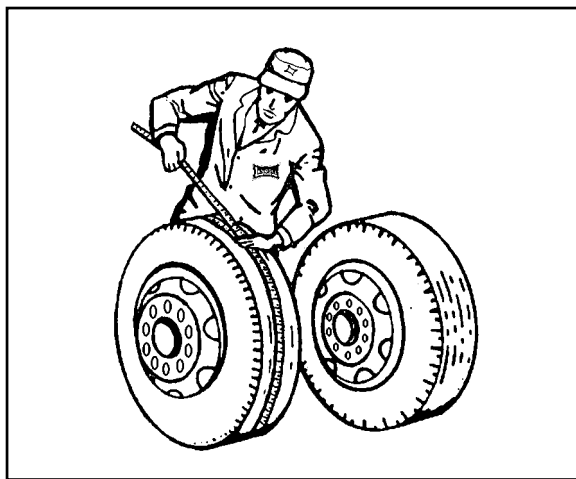

Figure 4-14 Measuring Tape Method
- a. **Tape Measuring Method:** Measure around each tire on the tread surface. A maximum difference of 3/4" is allowed between the two mating tires of a dual (**See Figure 4-14**).